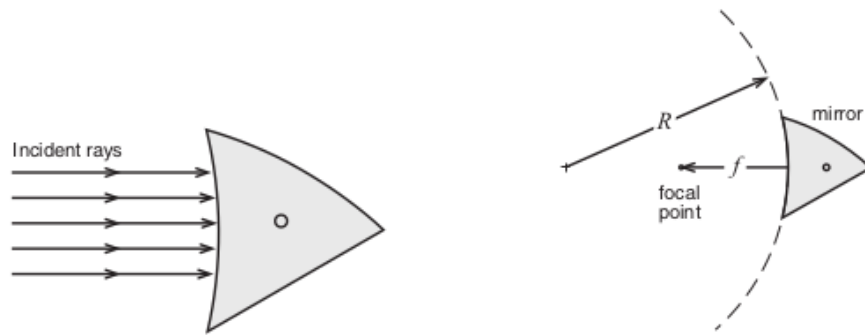

Figure 1.3.: Concave cylindrical mirror and reflection. Three rays may work better than the five shown in the diagram.
A concave cylindrical mirror focuses incoming parallel rays at its focal point. The focal length f is the distance from the focal point to the center of the mirror surface. The radius of curvature R of the mirror is twice the focal length, as shown in Figure 1.3:
1. Turn the wheel on the light source to three parallel rays¹. Direct the rays straight into the concave mirror so that the light is reflected back toward the ray box similar to Figure 1.3. Be aware of where the rays focus.